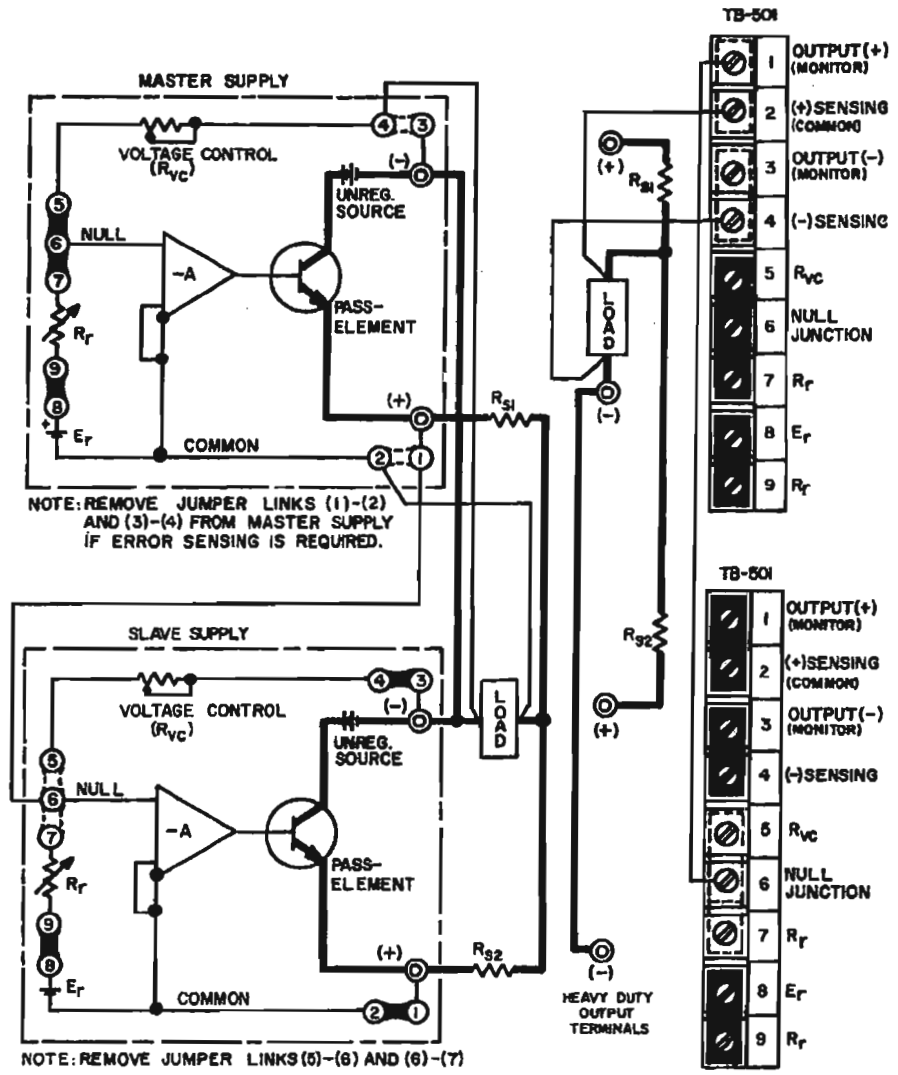

FIG. 3-14 MASTER SLAVE PARALLEL CONNECTION OF KEPKO POWER SUPPLIES
3-45 **MASTER/SLAVE PARALLEL CONNECTION.** Two power supplies are shown in FIG. 3-14, although more can be paralleled, each unit requiring its own sampling resistor. The sampling resistors (R_{s1}, R_{s2} in FIG. 3-14) are of equal value and are selected such that the voltage drop across them (due to the output current), plus the voltage drop in the load connection leads does never exceed 0.5 volts. If the voltage drop across the load connecting leads alone is at least 0.1 volt, the sensing resistors can be deleted since the leads provide the necessary sample voltage. For equal current sharing, however, the lead *length* and *diameter* should be the same for both power supplies. Output control is exercised from the "Master" supply.
3-46 **PROCEDURE FOR "MASTER/SLAVE" PARALLEL OPERATION (See FIG. 3-14)**
- 2) Make all load and sensing connections as shown in FIG. 3-14. The error sensing connections may be deleted if the minor voltage drop across the load wires (which subtracts from the available compliance voltage) can be tolerated.